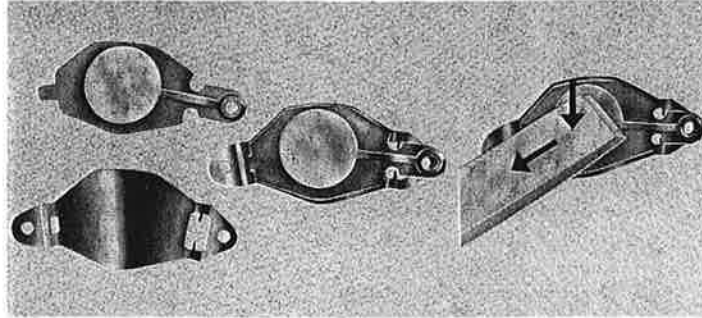

Fig. 6
- Press gently, with a leather buff, on the centre of the circuit and slide the circuit under the two protruding tongues of the bridle (Fig. 6).